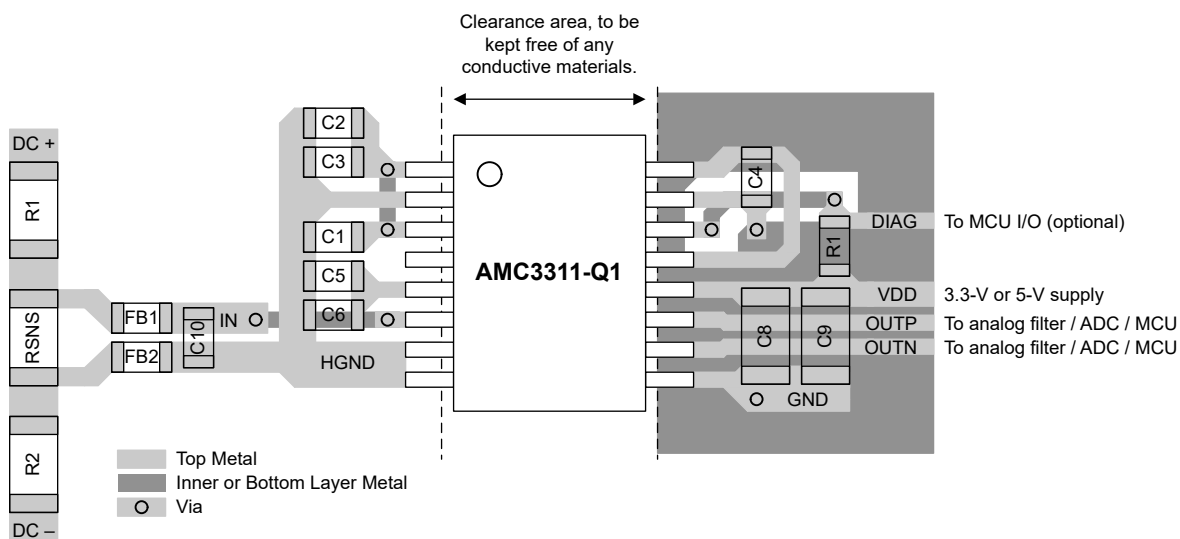

Figure 8-6. Recommended Layout of the AMC3311-Q1
Figure 8-6 shows a layout recommendation with the critical placement of the decoupling capacitors (as close as possible to the AMC3311-Q1 supply pins) and placement of the other components required by the device. For best performance, place the sense resistor close to the device input pin (IN).